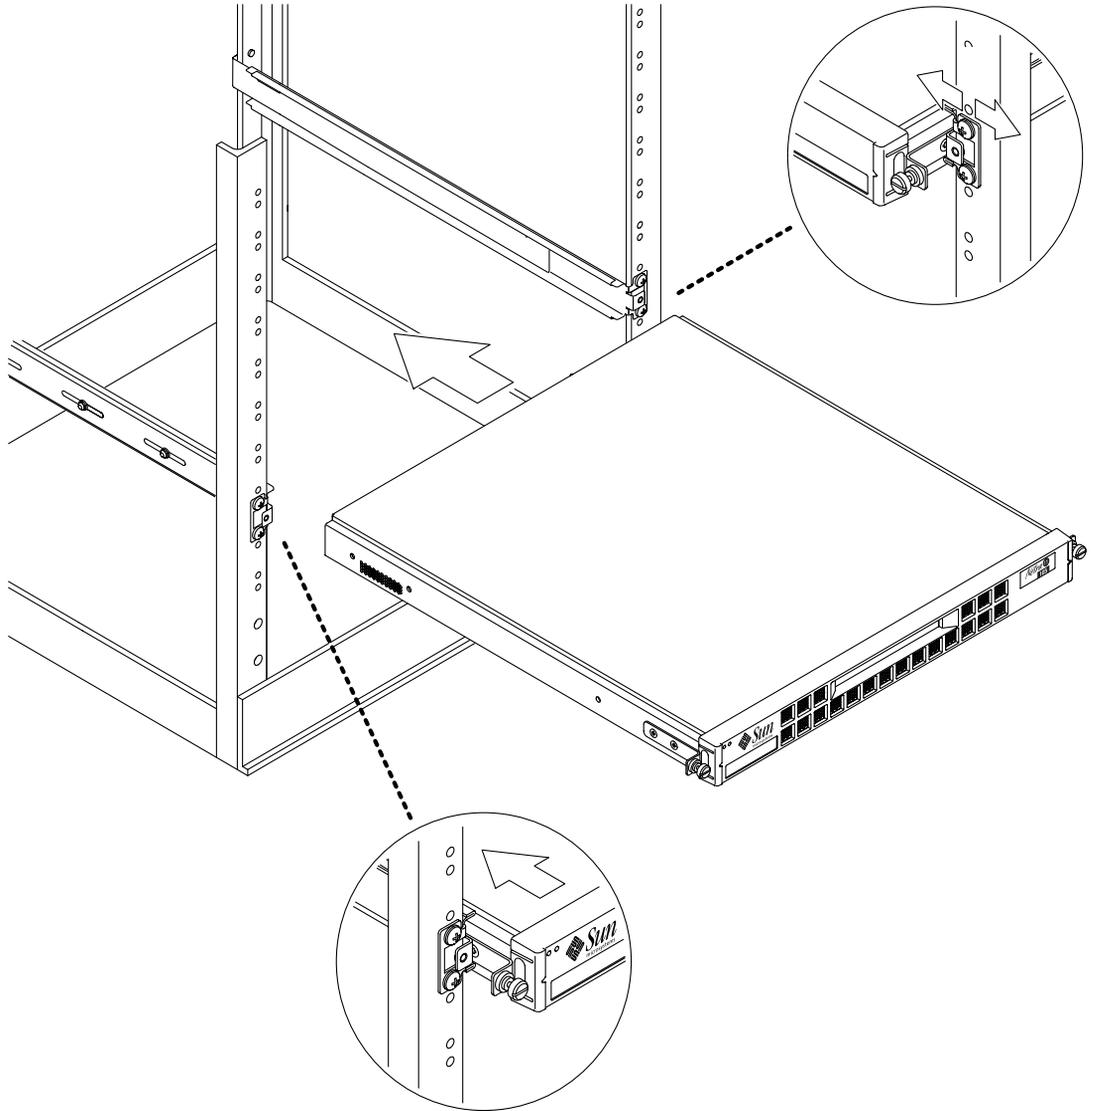

FIGURE 5-10 Fitting the Netra t1 into a 19-inch Rack
- 6. Slide the Netra t1 system into the rack (see FIGURE 5-10).**
- 7. Check the alignment of the thumbscrews either side of the Netra t1 system (see FIGURE 5-10).**
- 8. Fasten the slide mount fixing screws (see FIGURE 5-10).**
- 9. Fasten the thumbscrews at the front of the Netra t1 until they are finger-tight (see FIGURE 5-10).**